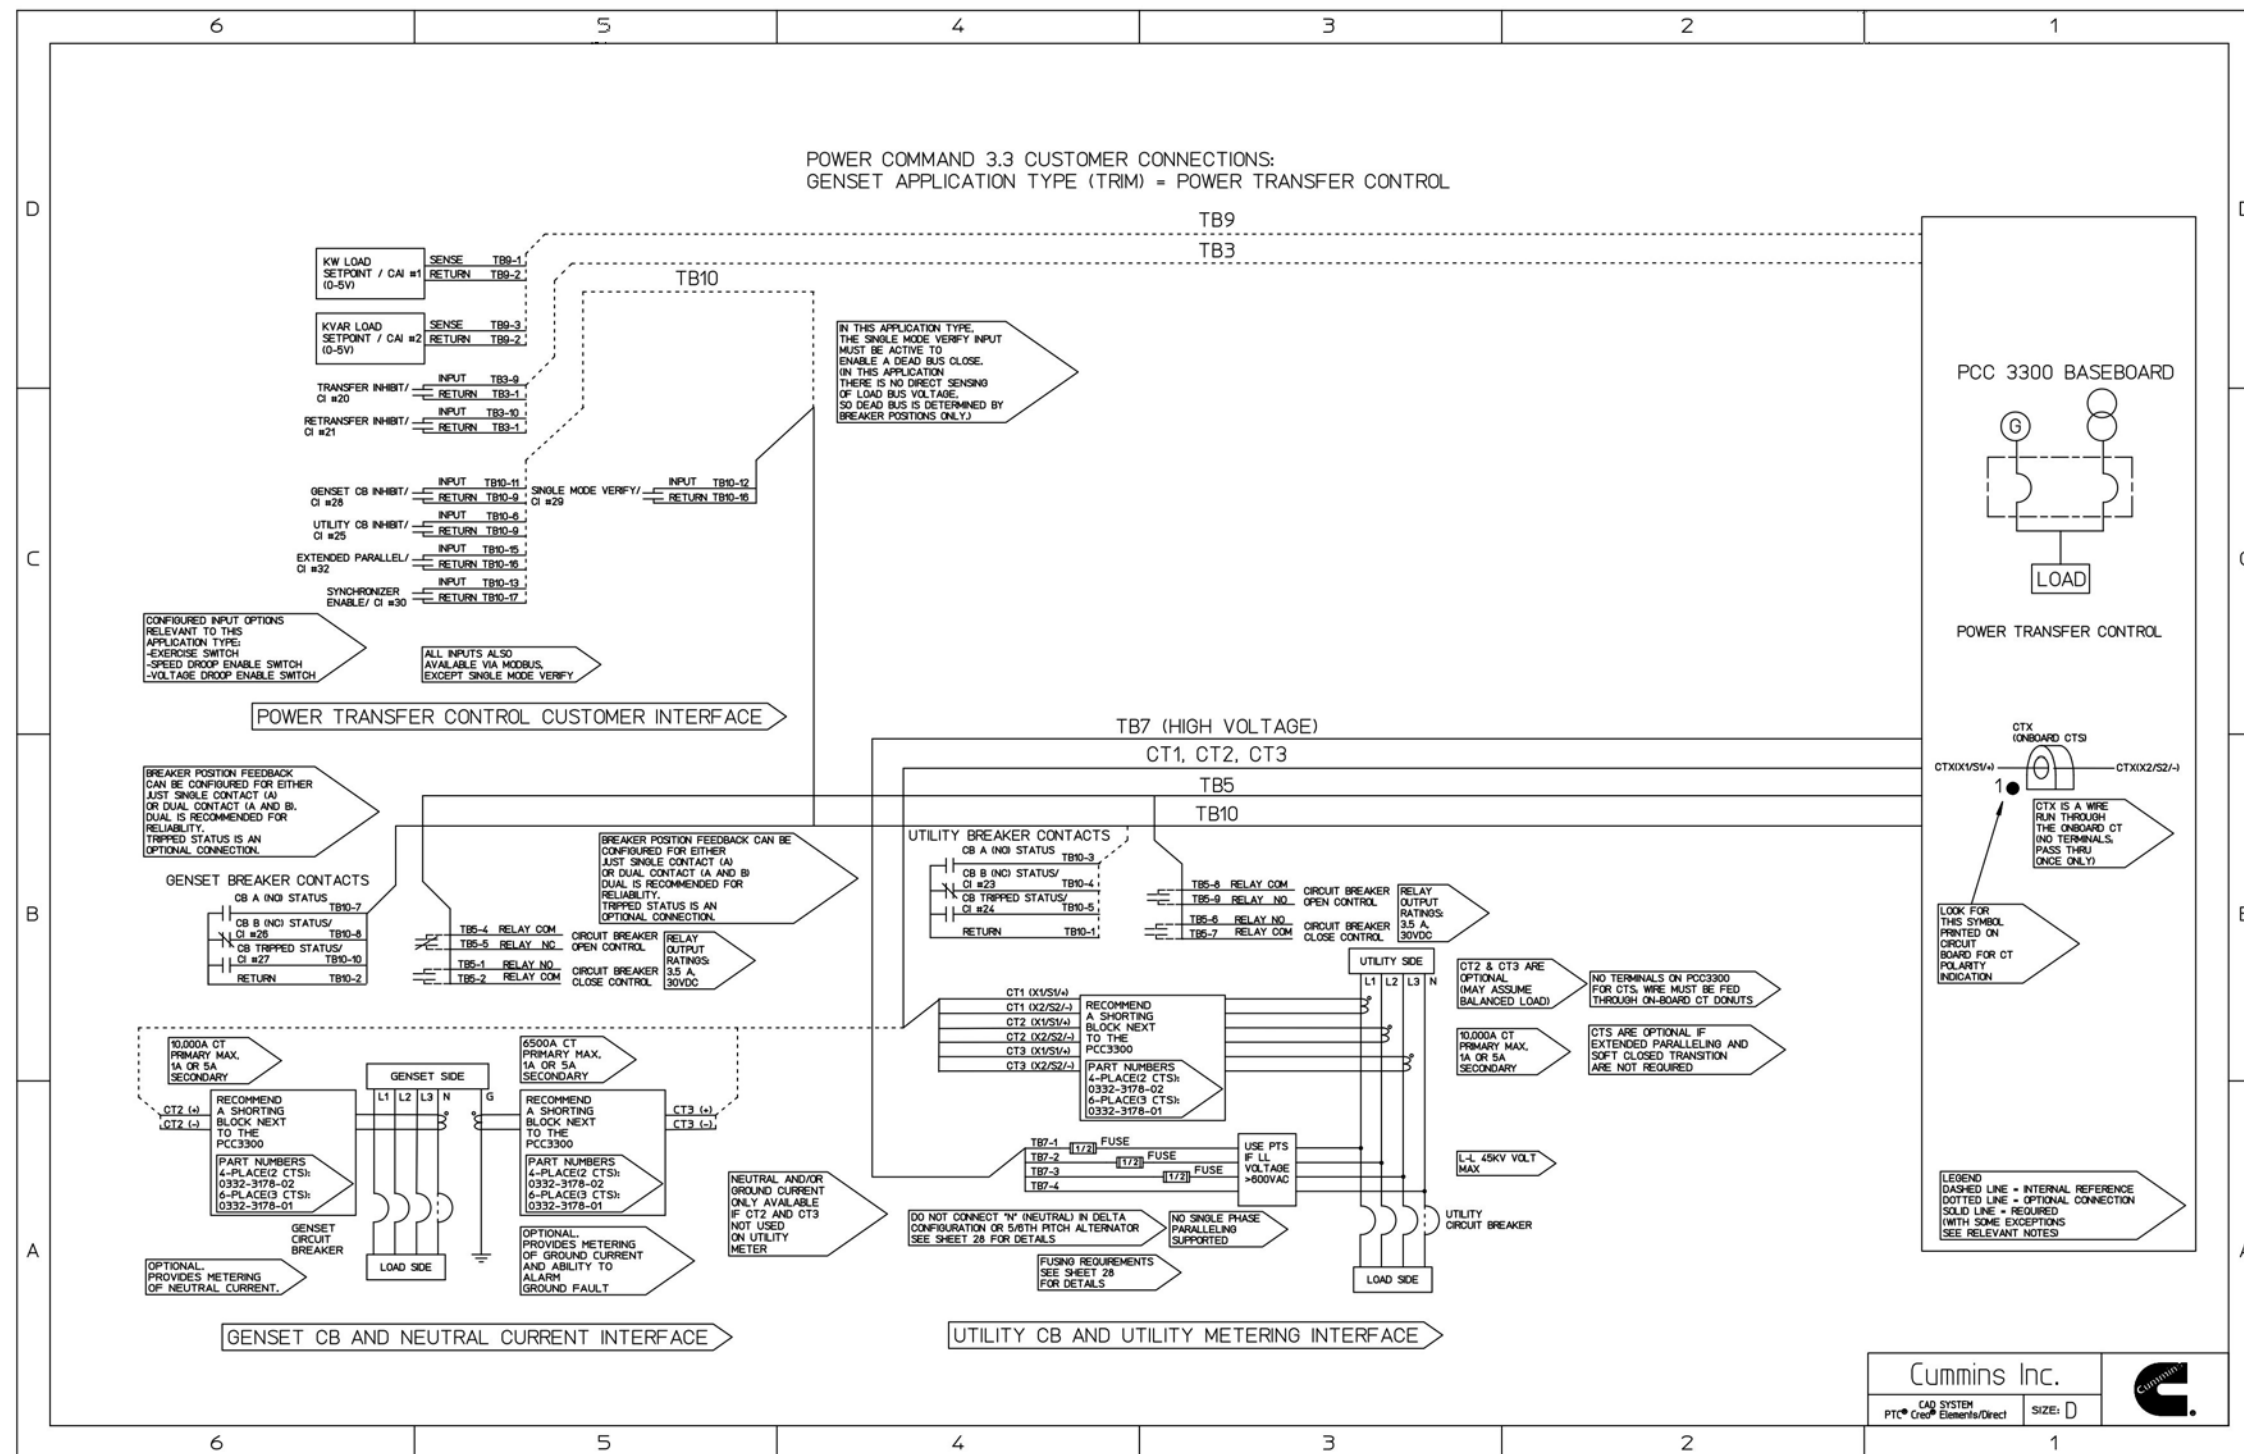

FIGURE 81. POWERCOMMAND 3.3 PARALLELING CONNECTIONS - POWER TRANSFER CONTROL
- Figure 81. PowerCommand 3.3 Paralleling Connections - Power Transfer Control 136